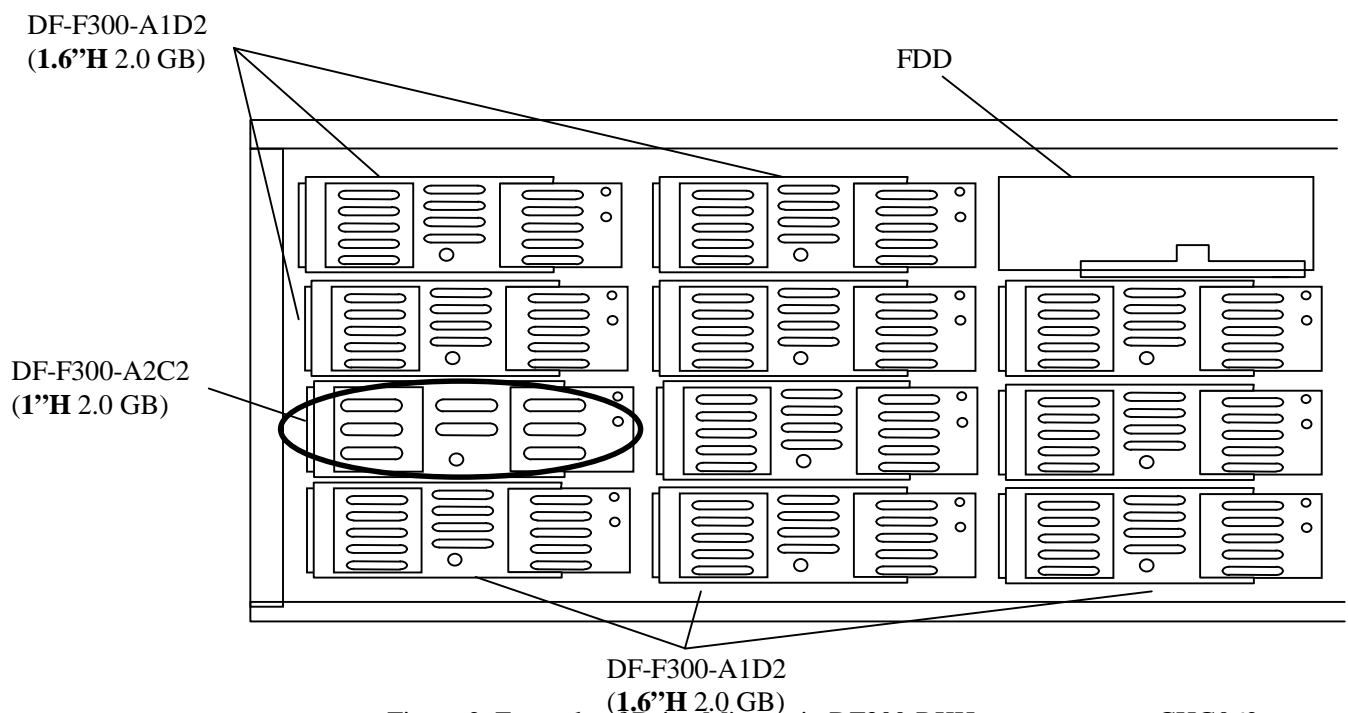

Figure 2. Example of Drive Mixture in DF300-RKH
- (1) The models which have the same capacity have the same function and performance with regard to the maintenance canisters of DF300-RKH. However, with regard to ones of DF300-RK, drive bay is designed only for 1" height canister so that 1.6" height canister can not be used.
- (2) In case of maintaining DF300-RKH, different canisters which have the same capacity can be used in the same row. For example, when drive regressing occurs in the row composed of DF-F300-E1D2, both canisters, DF-F300-A1D2 and DF-F300-A2C2 can be used for replacing HDU ASSY(Refer to the table). The capacity of these canisters is the same so that it is possible to compose the subsystem shown in Figure 2. That goes between DF-F300-A1C4 and DF-F300-A2C4, too.